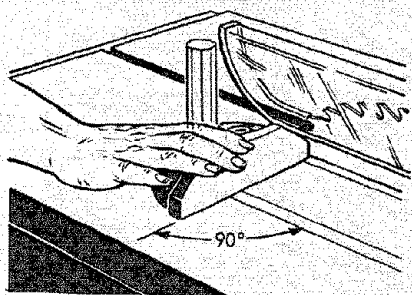

Figure 64
4. Square crosscutting is done with the miter gauge set at "0" (at a right angle to the slide and groove). (See figure 64.) The splitter need not be removed, but it is not needed for this operation.